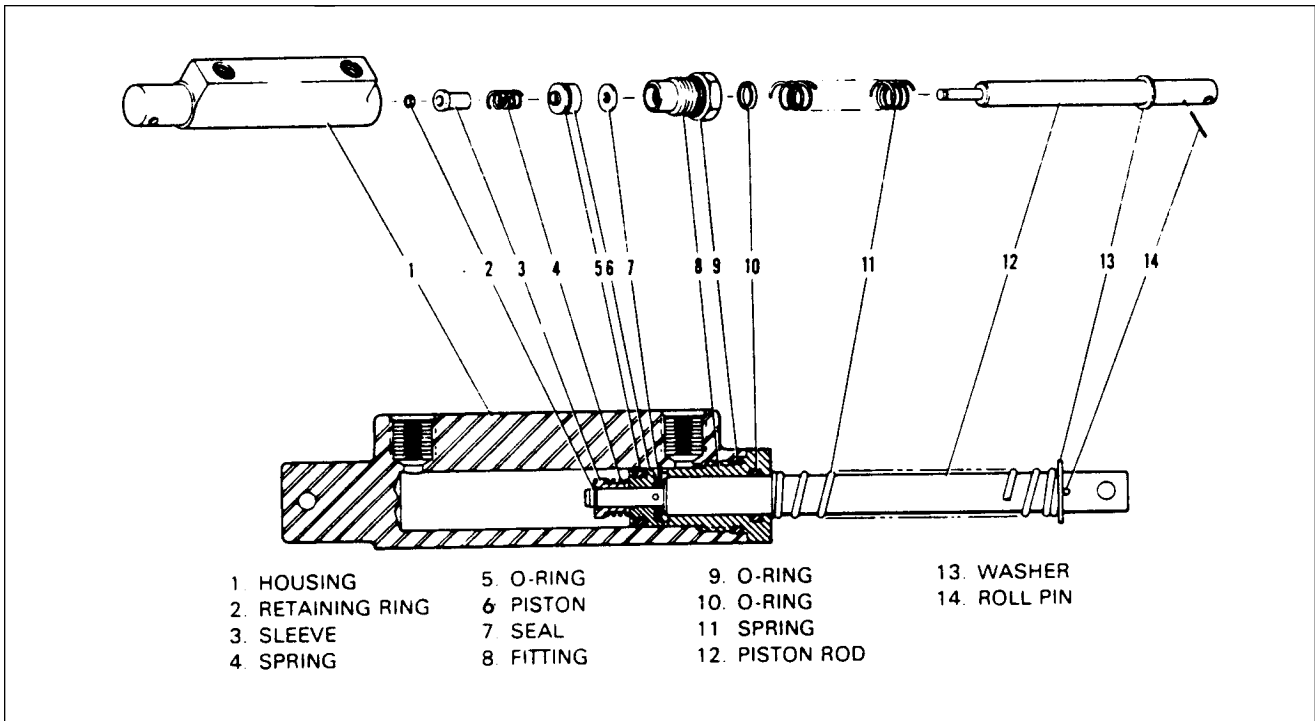

Figure 32-17. Brake Cylinder (17000) (Toe Brake)
2. Gar-Kenyon cylinder number 17000: (Refer to figure 32-17.)